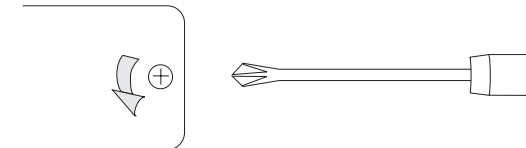

Figure 35
2. Unscrew the battery cover in a counterclockwise direction using the #0 Phillips head screwdriver provided. See **Figure 35**. Save the screw.